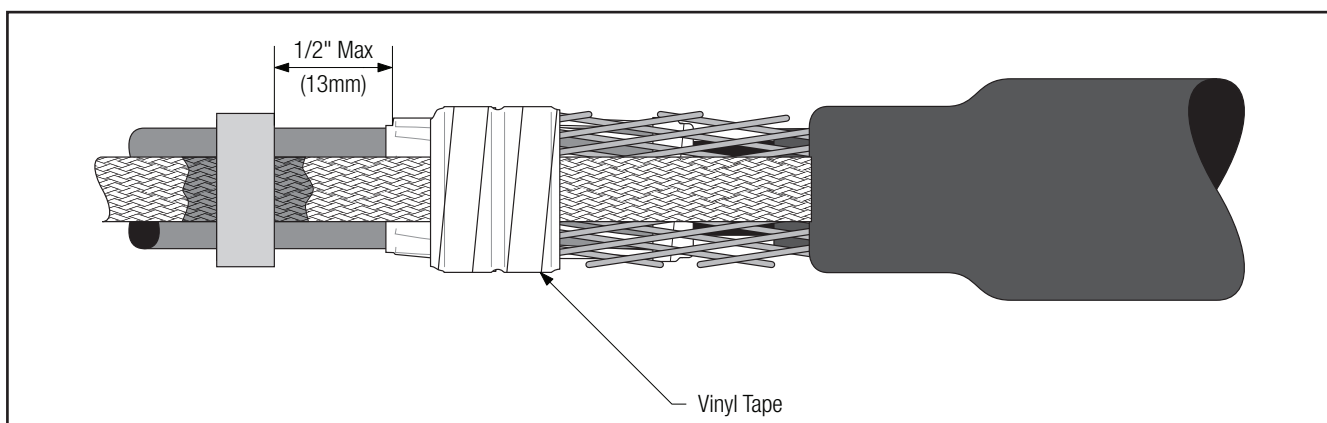

Figure 21
- 5.10 Wrap two half-lapped layers of vinyl tape over all constant force springs (*Figure 21*).